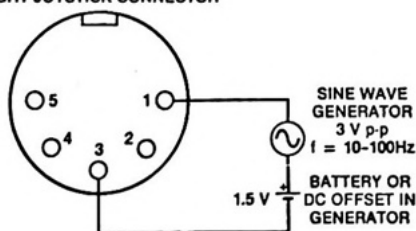

Figure 6-24
Step 8 — Turn the computer power off and disconnect the potentiometer from the joystick connector. Connect a sine-wave generator and a 1.5-volt battery, or DC offset, to the right joystick connector as shown in Fig. 6-24. Set the generator frequency between 10 Hz and 100 Hz. Set the generator for a 3-volt peak-to-peak sine-wave output.